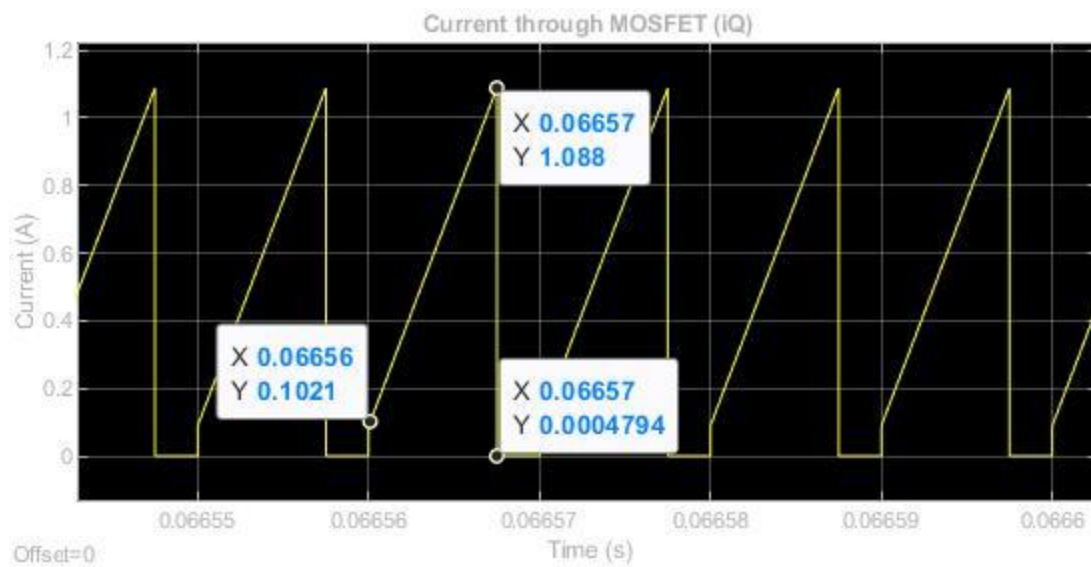
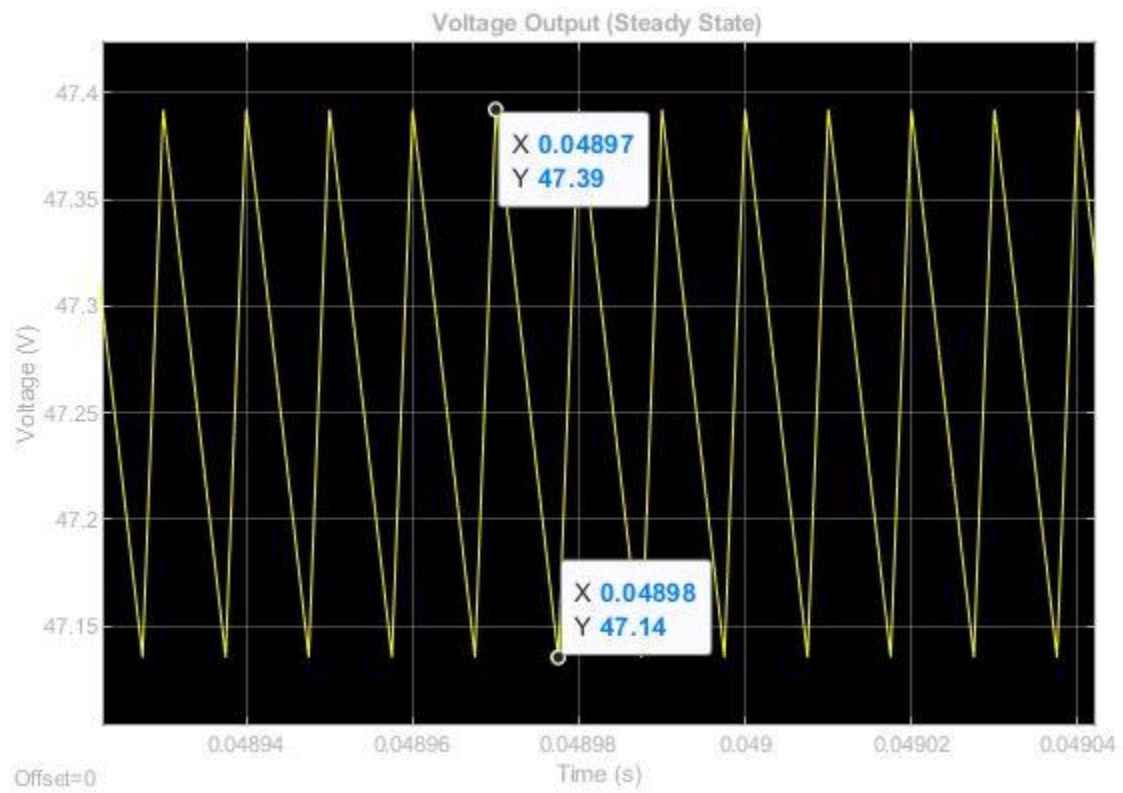

Figure 7: Current through the MOSFET
Figure 10: Voltage Output
- c. The simulation displays the ripple condition as denoted in *figure 10* alongside the nominal condition with an expected ΔI_L of approximately 1A. The v_o is the expected 48V indicating the validity of the first component of the investigation. Furthermore, the negative voltage with the diode output indicates a nominal condition, as highlighted in *figure 7*.